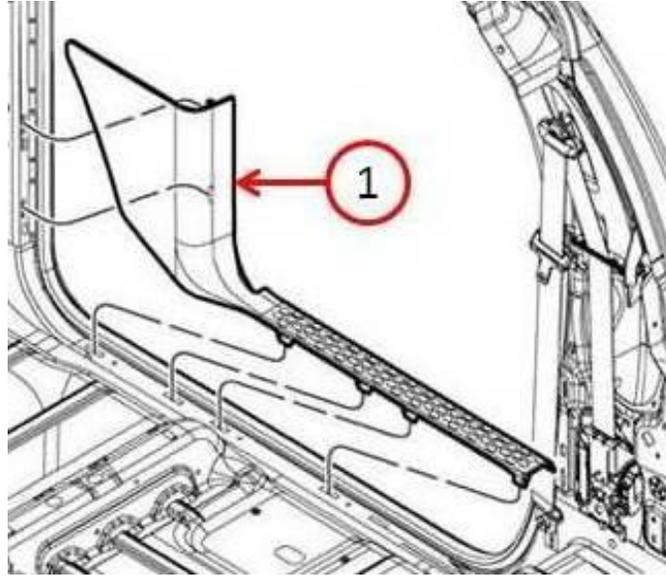

**Fig. 2 Antenna Base and Cable Assembly**
1. Inspect the antenna nut for cross threading on the antenna base and cable assembly(Fig. 2).